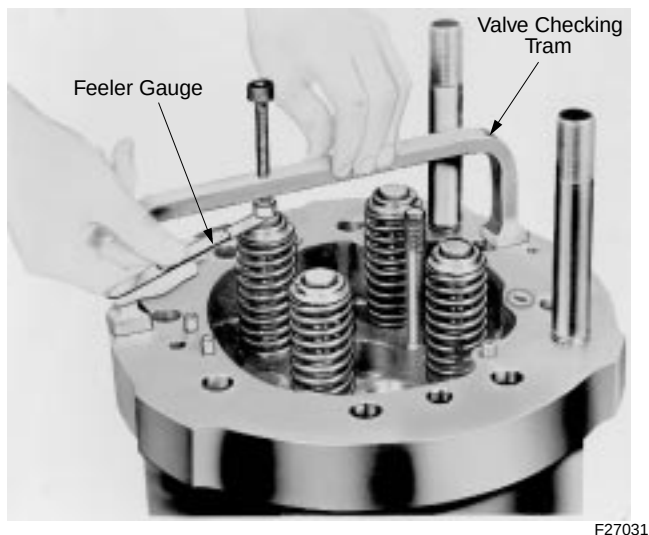

Figure 2-21. Checking Height Of Valve Stems
2. Apply tram firmly on cylinder head, Figure 2-21.